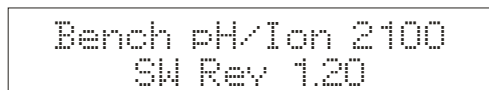

Figure 7
3. See **Figure 7**. To turn the meter on press ON/OFF. The upper display flashes *Bench pH/Ion 2100* for the pH 2100, (Display flashes *Bench pH 1100* for the pH 1100 meter.) and then the lower display flashes *SW Rev 1.20*. See **Figure 7**.